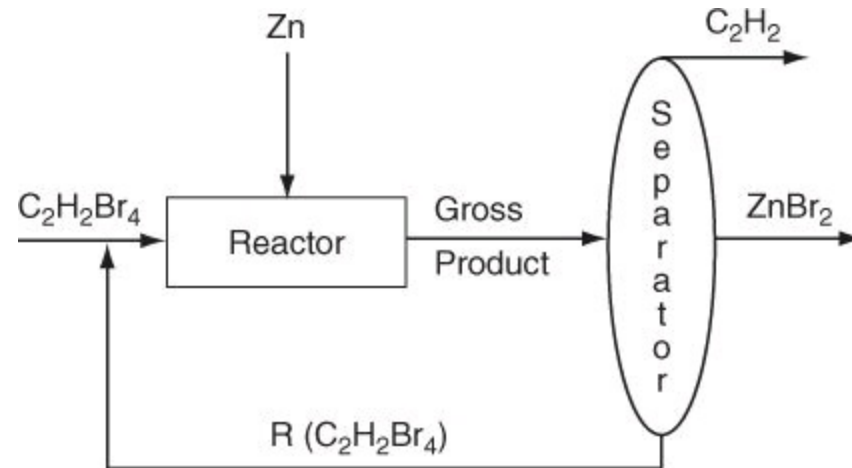

Figure P6.3.11
****6.3.11.** The reaction of ethyl-tetrabromide with zinc dust proceeds as shown in Figure P6.3.11.